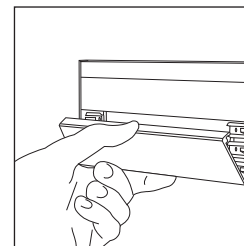

Fig.3
*Replacing Bottom SignBands* (Fig. 3)